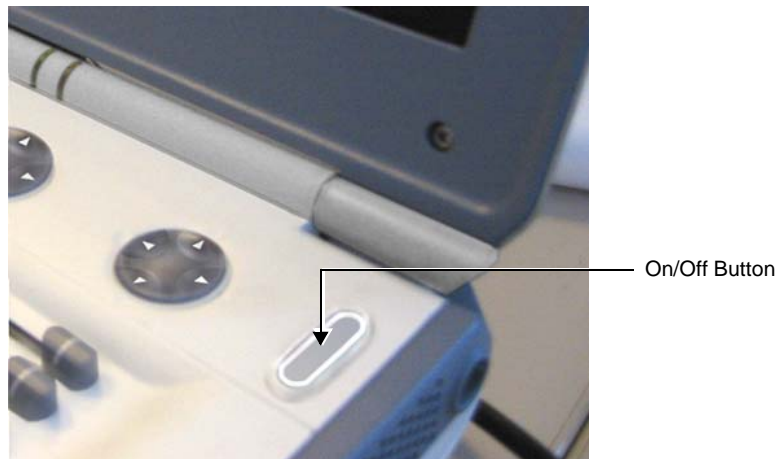

Figure 4-2 On/Off Button on Control Panel
- 2) Hold down the **On/Off** button (Figure 4-2) on the control panel for 3 seconds. The system automatically performs an initialization sequence which includes the following: